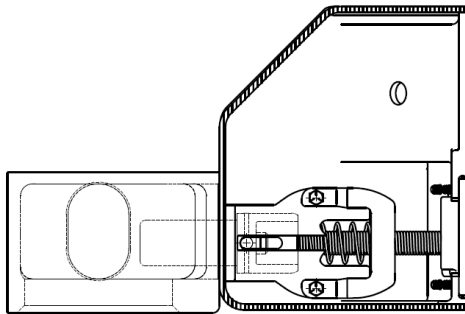
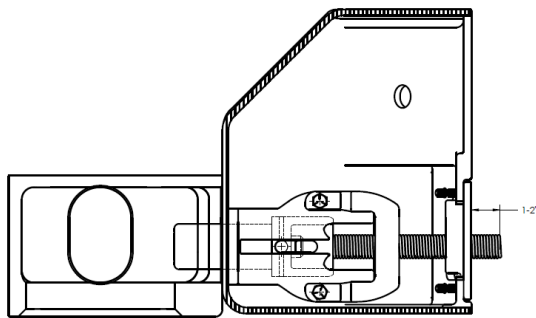

Figure 2A
Figure 3A
a) To check if the pin-lock is functioning correctly, the pin needs to be retracted by pulling the handle from the locked position (Figures 2A and 2B) to the partially retracted position (Figures 3A and 3B) so that the handle moves approximately 1-2 inches.
- b) Once the pin is in the partially retracted position (Figures 3A and 3B), let go of the handle, and the pin should spring forward and back into the locked position (Figures 2A and 2B).
- c) If the pin springs forward to the locked position (Figures 2A and 2B), the pin-lock is operating correctly. If the pin does not spring forward into the locked position, it is either hitting the corner casting of the container (not aligned) or the locking spring is broken.